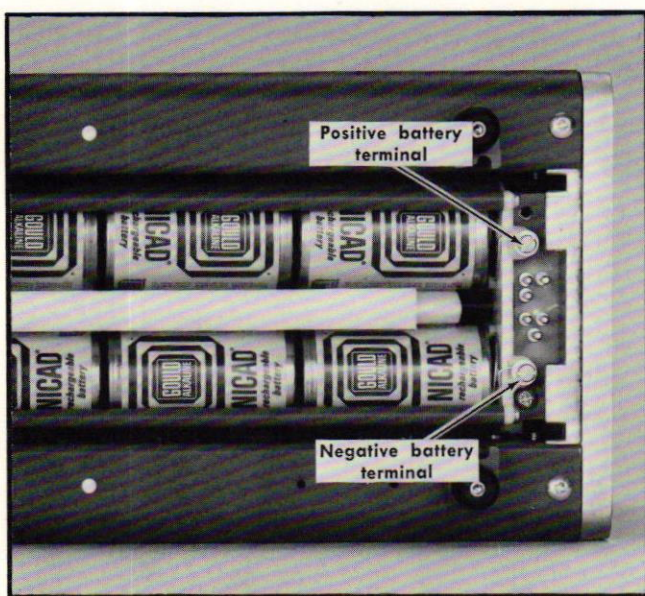

Fig. 5-4. Battery terminals (bottom).
- a. Connect the precision DC voltmeter to the battery terminals (see Fig. 5-4).